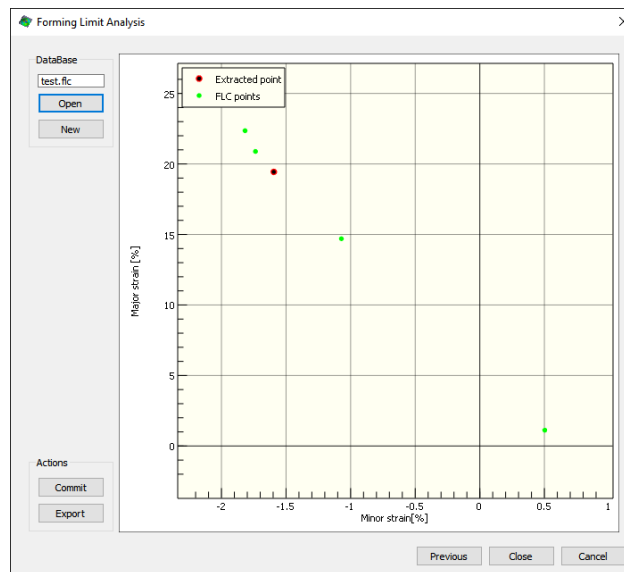

Figure 4.
- After the user clicks **Next**, the e_1 & e_2 values at the selected failure point are shown in the FLD as displayed in figure 4. The software automatically loads a database (*.flc file) from the parent directory if it exists. It is recommended that all tests for the FLC are kept as sibling directories of a common parent directory in which the database is stored.
- After all the forming tests are performed, the user will end up with one common graph that includes all the data points as shown in figure 4.